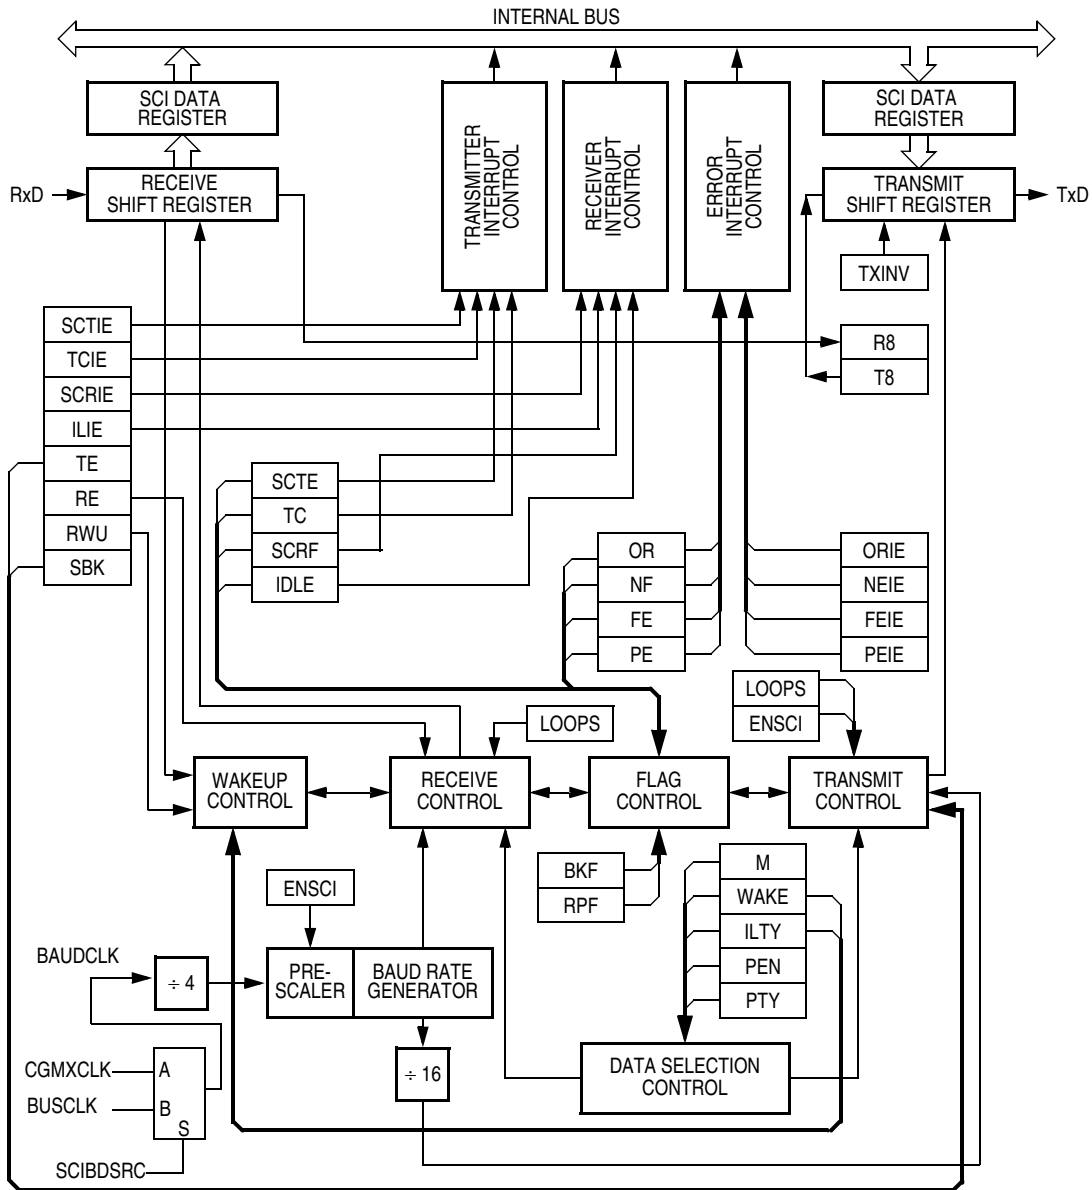

Figure 12-3. SCI Module Block Diagram
**Figure 12-3** shows the structure of the SCI module. The SCI allows full-duplex, asynchronous, NRZ serial communication between the MCU and remote devices, including other MCUs. The transmitter and receiver of the SCI operate independently, although they use the same baud rate generator.